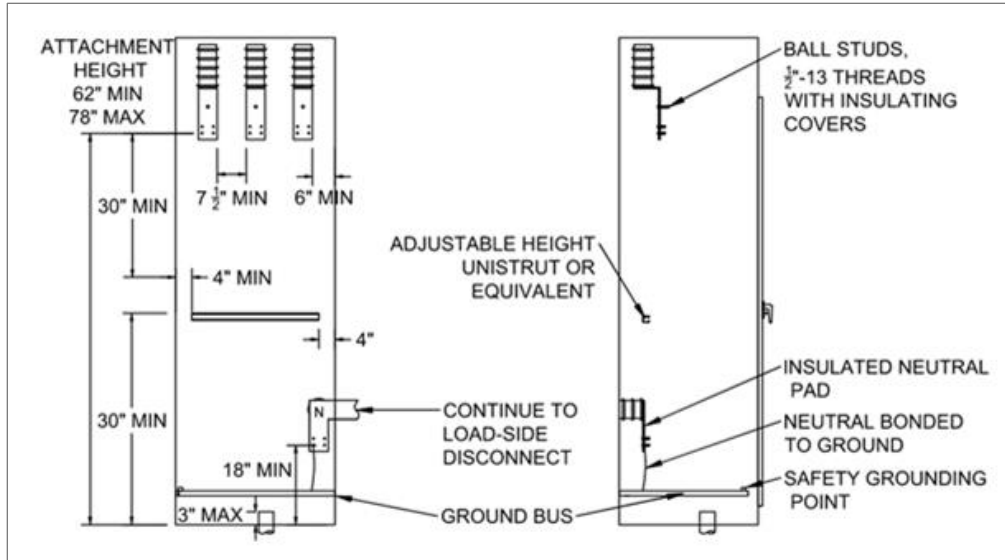
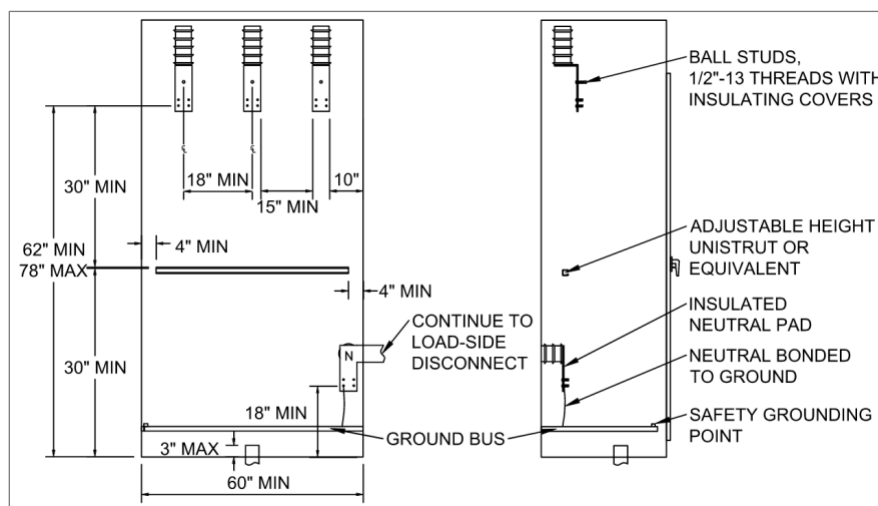

Figure 5: Termination Compartment Clearances for 12.47 kV (STD-M-3301)
Figure 6: Termination Compartment Clearances for 34.5 kV (STD-M-3301)
- A minimum 1/4-inch clear polycarbonate insulating barrier is required between the termination lugs and the access door. The polycarbonate (such as Lexan or Makrolon) must be electrically insulative, transparent, and meet applicable codes (NEC, UL). This barrier must be hinged to allow unobstructed access to the terminations as shown in **Figure 5** and **Figure 6**.
For services up to 12.47 kV, the termination section must meet the requirements defined in EUSERC 418, as well as those shown in **Figure 5** and listed below.
For 34.5 kV services, the termination section must meet PGE's requirements, as shown in **Figure 6** and listed below.